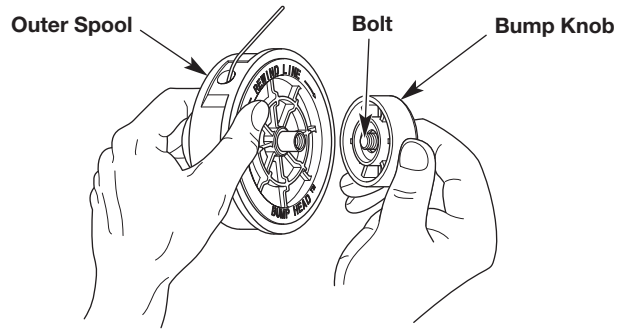

Fig. 12
1. Hold the outer spool with one hand and unscrew the bump knob counterclockwise (Fig. 12).